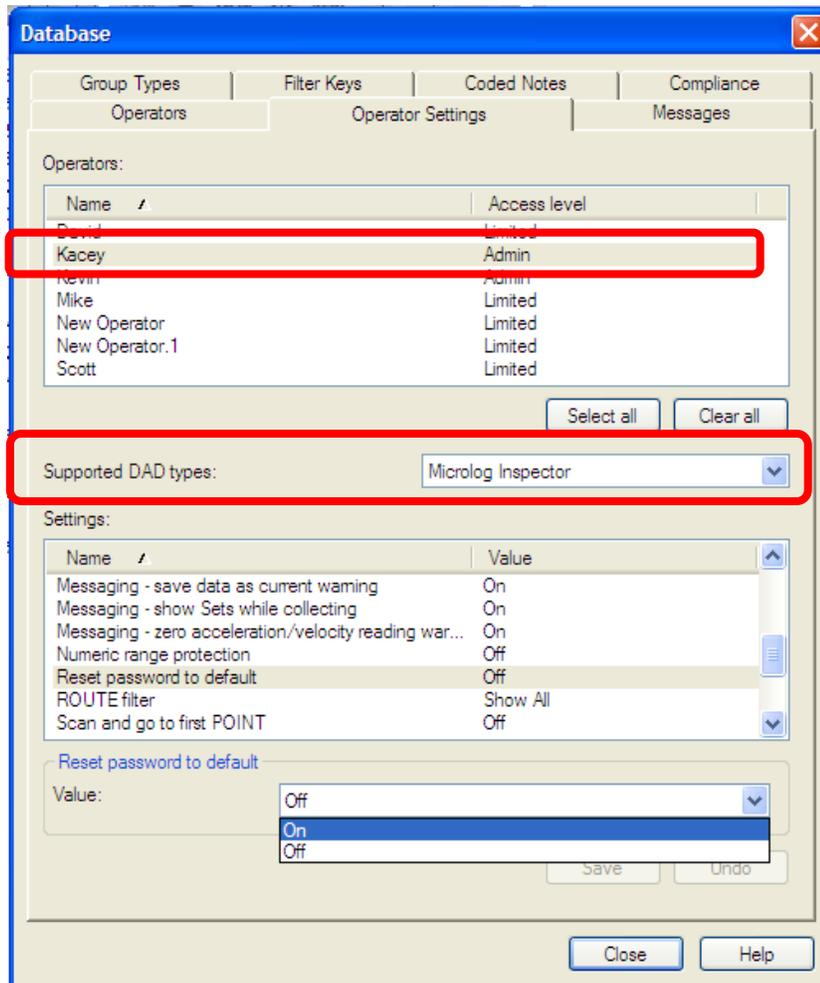

Figure 3. Operator Settings tab
- Click on the **Operator**, and in the **Supported DAD Types** drop-down list, choose **Microlog Inspector**. [Figure 3]